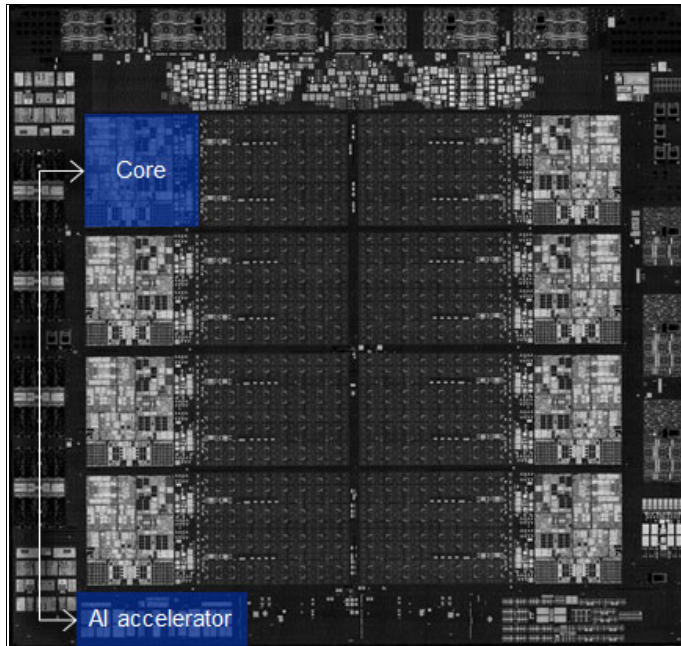

Figure B-1 IBM z16 Processor chip: AIU location
In August 2021, IBM announced a new generation of IBM Z processor, Telum with new Artificial Intelligence (AI) accelerator (see Figure B-1). This innovation brings incredible value to the applications and workloads that are running on IBM Z.